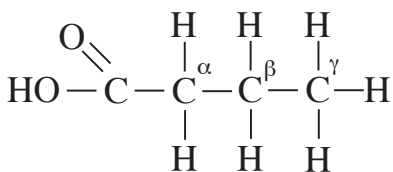

Fig. 11 A four carbon fatty acid (butyric acid).
B. Make a model of butyric acid, as shown below, in Fig. 11. Use the long, thin tubes to connect the double bonded oxygen to the first carbon. Have the model checked. This fatty acid molecule is saturated (i.e. it holds as many H-atoms as possible).